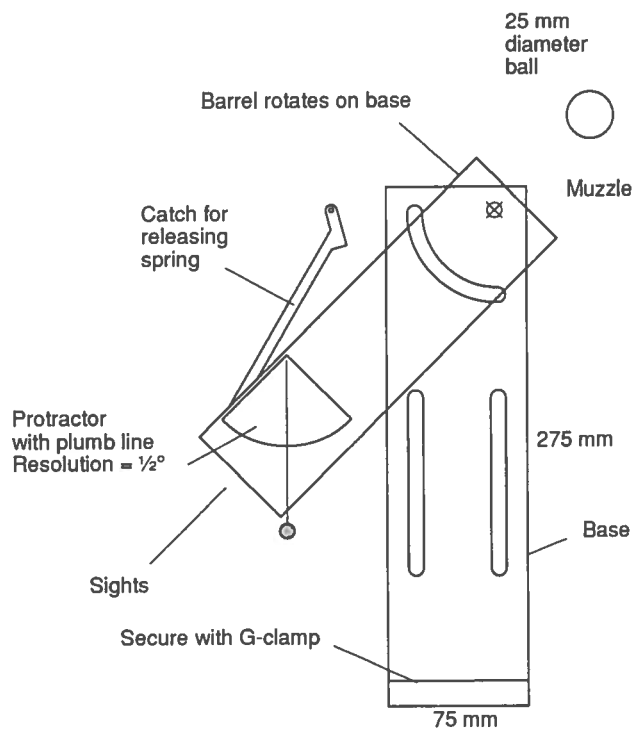

Figure 2 Projectile Launcher (side elevation).
- The Projectile Launcher (Fig. 2) fires 25 mm diameter balls. There are two types of ball. The standard one is solid nylon, in fluorescent yellow, weighing 10 g. The other is a steel ball bearing and weighs 66 g.